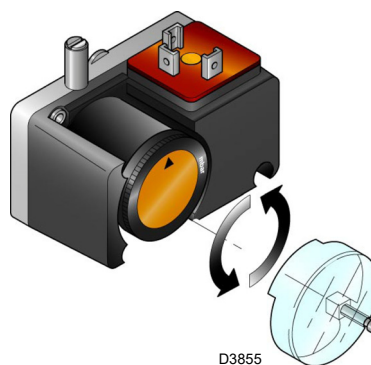

Fig. 32
- Adjust the minimum gas pressure switch (Fig. 32 on page 28) to the start of the scale.
Adjust the minimum gas pressure switch (Fig. 32) after having adjusted the burner, the gas valves and the gas train stabiliser. With the burner operating at maximum output: